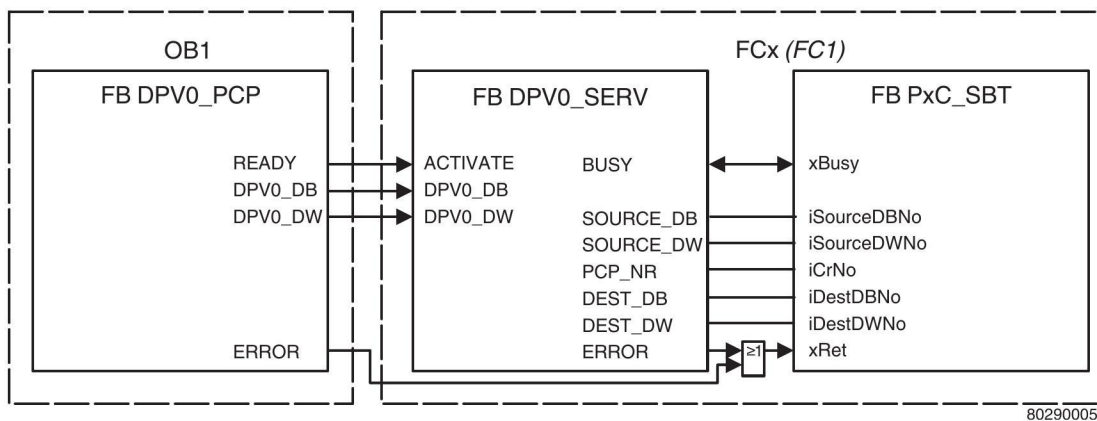

Figure 3-28 Links between the blocks
- Link the blocks for PROFIBUS according to Figure 3-28.